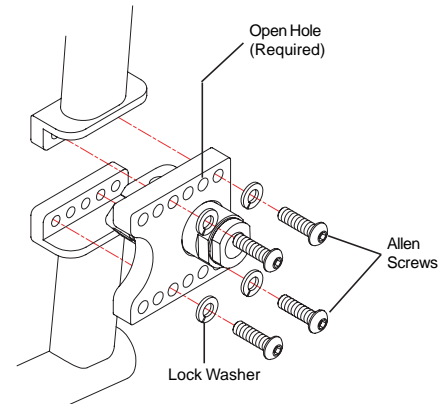

Figure 2
2. Remove the eight Allen Screws (four on each side of the chair) that secure the Camber Clamps to the CG Bracket. See Figure 2.